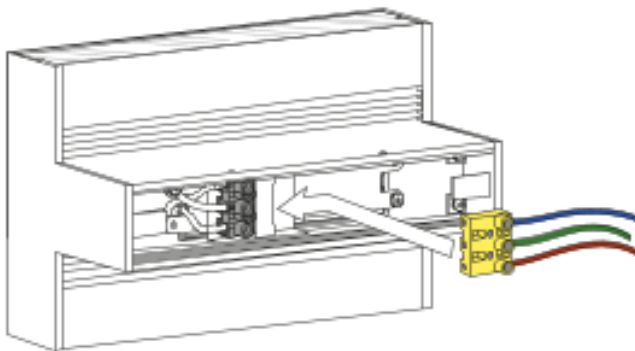

Fig.3
Connect the female connector (C) to the male connector (G) of the device. (Fig.3)